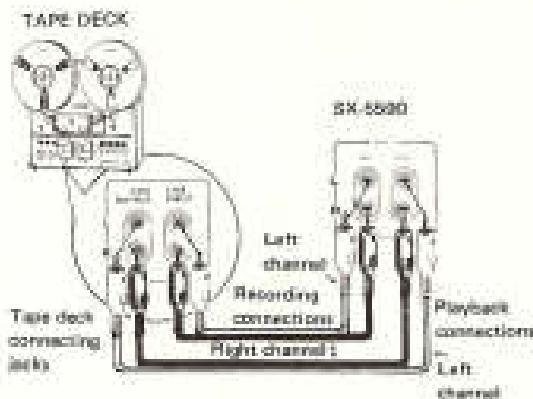

Fig. 4
Use the connecting cord(s) provided with the tape deck(s) to make the connections (see Fig. 4). A tape deck can also be connected to the ADAPTER jacks.
- The receiver output TAPE 1 REC jacks are connected to the recording input jacks (LINE INPUT) of the tape deck as shown in Fig. 4. The upper jack of each pair is the L (left) channel and the lower is the R (right) channel. When the tape deck is provided with a DIN-type jack for recording and playback, use an optional recording/playback cord to make the connection to the TAPE 2 REC/PLAY DIN jack.